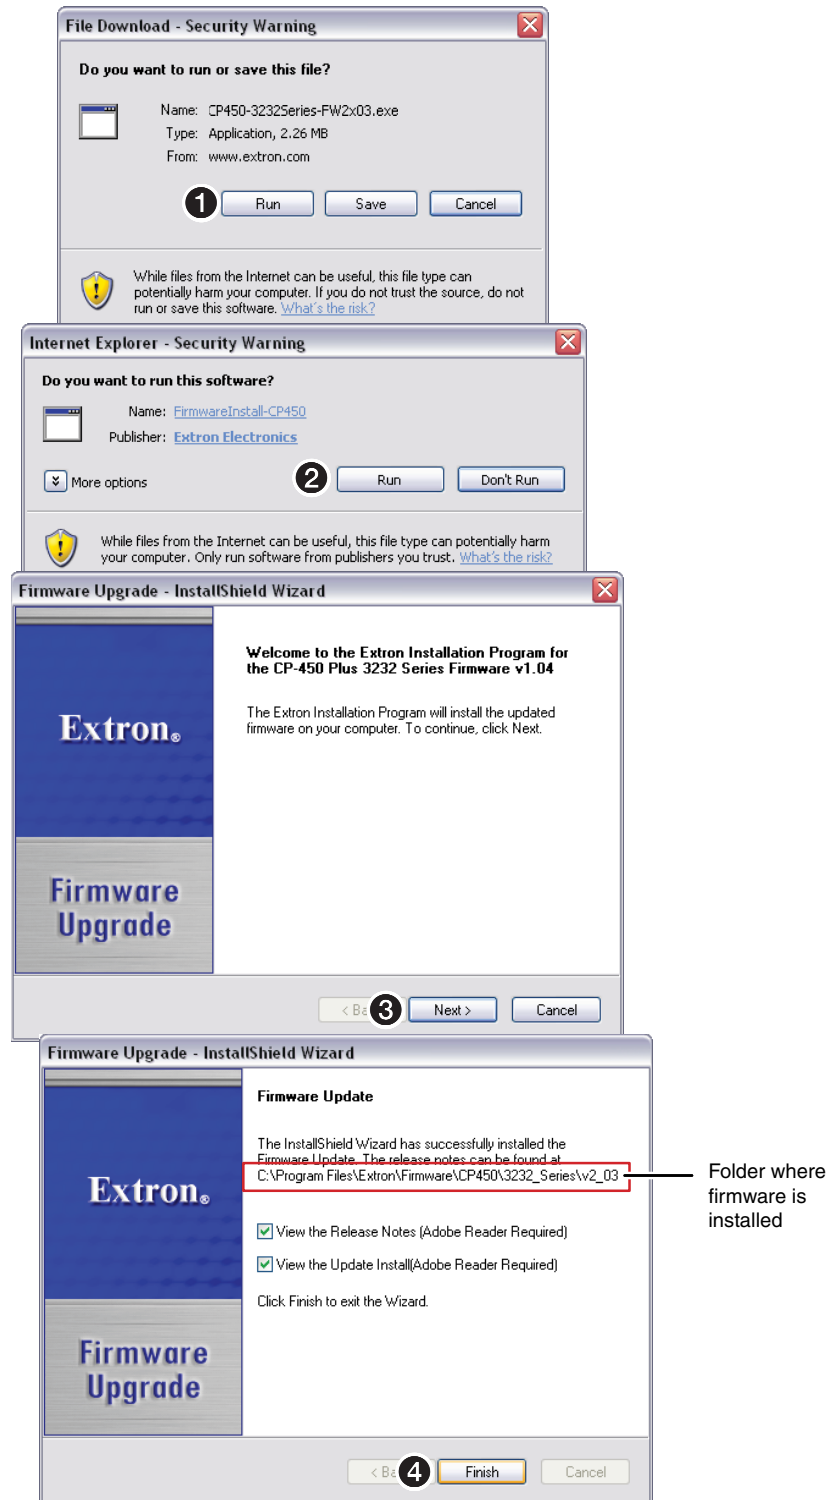
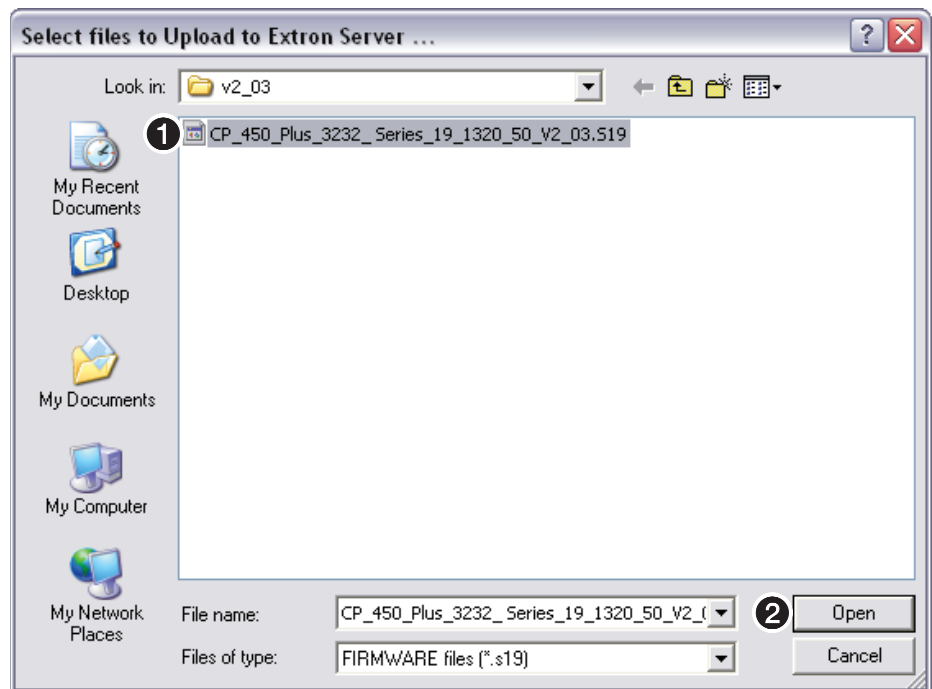

Figure 71. Downloading Firmware Upgrade Files
Figure 72. Select File Window
2. Click **Run** in the File Download and Security Warning dialog boxes (see **figure 71**, ❶ and ❷, on the next page). The PC downloads the firmware update from the Extron website and starts the Extron Installation Program to extract the firmware file.
3. Click **Next** (❸). The program extracts the firmware files and places them in a folder identified in the InstallShield Wizard window.
4. Click **Finish** (see **figure 71**, ④) to exit the program.
5. Connect a Windows-based computer to either the Remote RS-232/RS-432 port (see item ③ on **page 26**), the front panel Configuration port (if equipped, see item ① on **page 30**) or the LAN port (see item ⑨ on **page 27**) of the switcher.
- **If the switcher is connected via the LAN port**, the select file window appears (see figure 72 and “Ethernet-connected firmware upload,” below).
1. Navigate to the folder where you saved the firmware upgrade file. Select the file (see figure 72, ①).
2. Click **Open** (②). The software advises you that you are about to reprogram the switcher firmware. Click **OK** to continue.